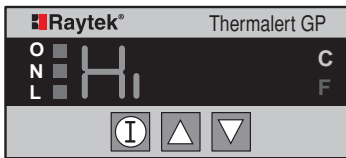

Figure 13: 20mA Analog Output Display
4. Pressing the  button again brings up the 20mA display (Figure 13).